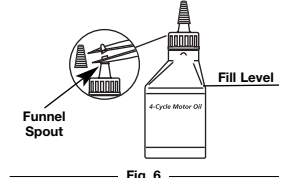

Fig. 6
Your unit is supplied with one 3.04 fluid oz. (90 ml.) bottle of SAE 30 SF, SG, SH oil (Fig. 6).
1. Unscrew the top of the bottle of oil and remove the paper seal covering the opening. Replace the top. Next, cut the tip off the funnel spout (Fig. 6).